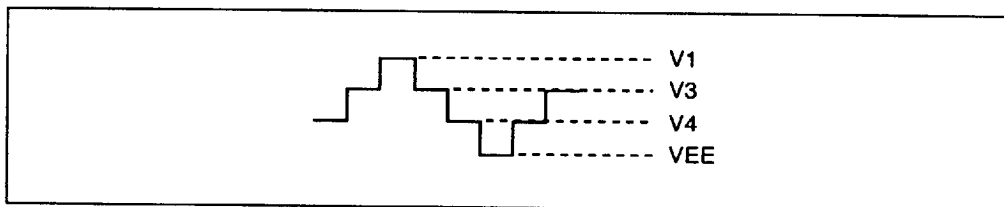

Figure 1 Different Power Supply Voltage Levels for LCD Drive Circuits
**V1, V3, V4:** Supply different levels of power to drive the LCD. V1 and VEE are selected levels, and V3 and V4 are non-selected levels. See figure 1.